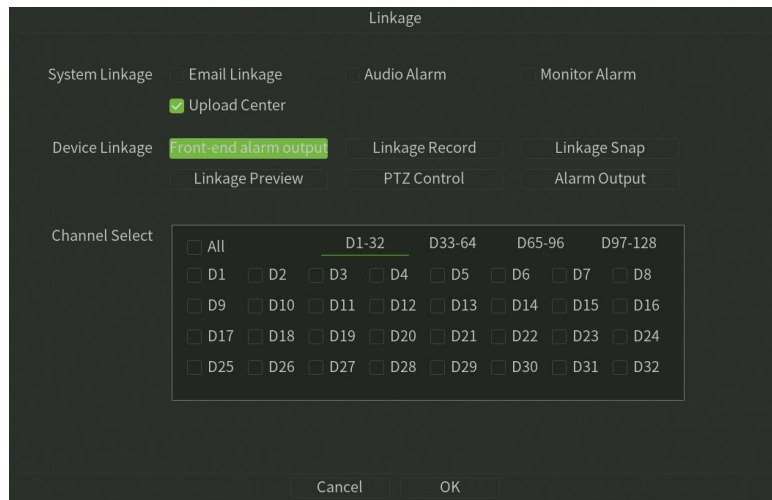

Figure 8.2.2 Arming Schedule
5. **Linkage:** Click Linkage button, Setup the linkage operation of the function, as shown in figure 8.2.2.